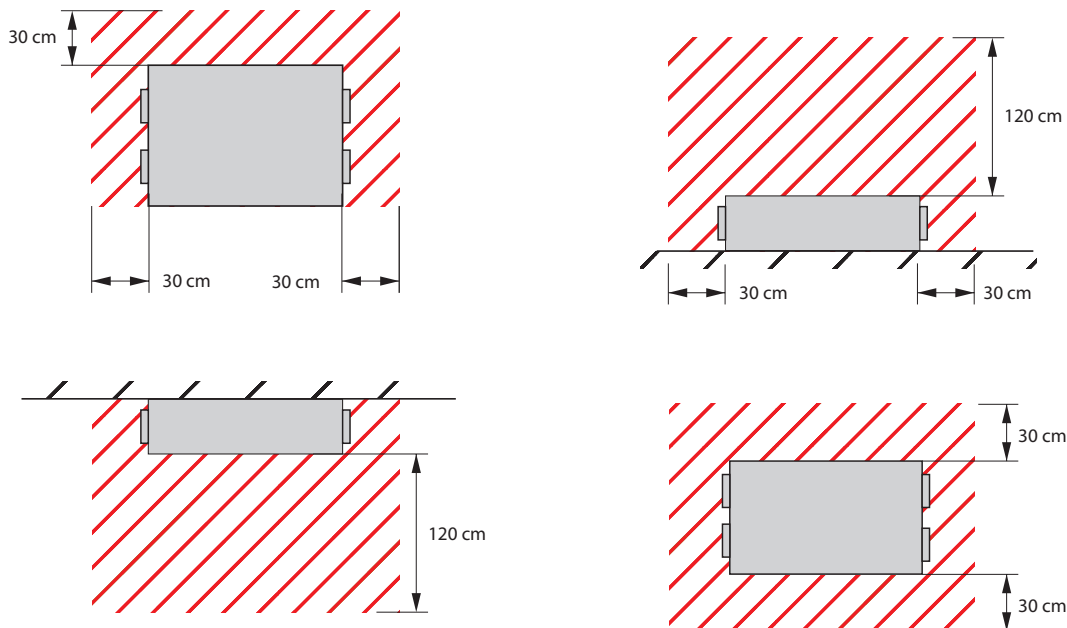

Fig. 5. Minimum space for maintenance
- Only these units can be mounted on the ceiling or wall and only in such positions as specified in Fig. 5.